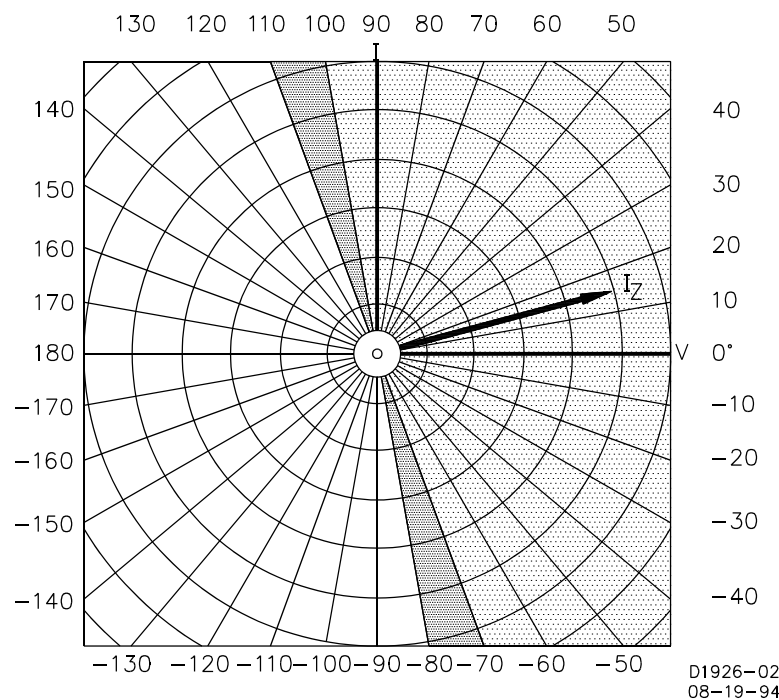

Figure 5-11.  $\alpha = 75^\circ$
Step 11. Vary the phase angle of the input current through  $360^\circ$  and record the phase angles within which the INHIBIT LED is OFF. When shown on a polar plot, the result should be a straight line (through the origin) from  $-75^\circ$  to  $+105^\circ \pm 5^\circ$ . This plot defines the trip region as shown in Figure 5-11.